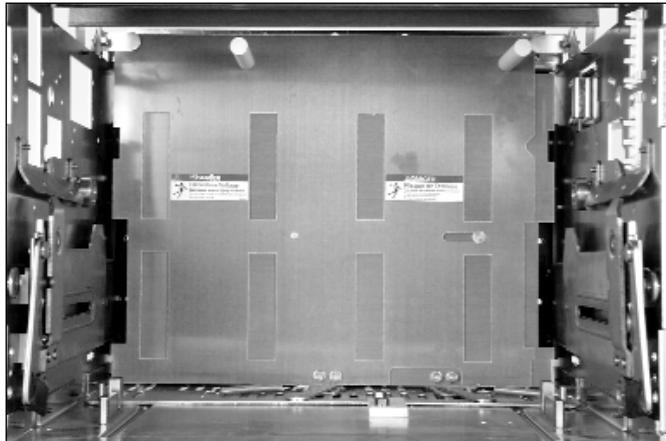
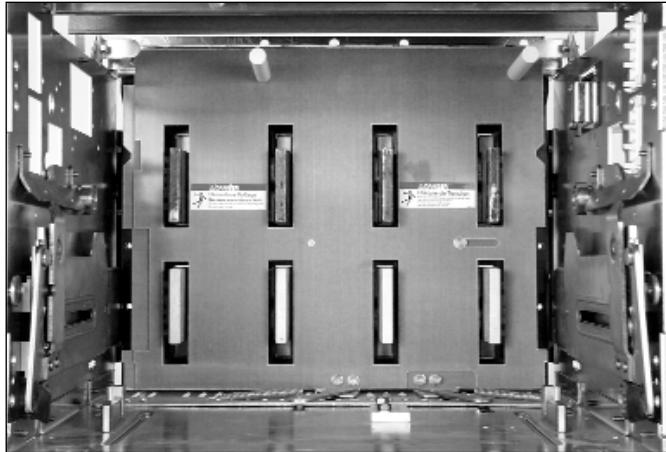

Figure 3-60 Typical Safety Shutters in Closed Position
Figure 3-61 Typical Safety Shutters in Open Position
**Cassette Safety Shutters** - Automatically operated insulating type safety shutters are available for use with the drawout cassette. When the drawout circuit breaker is levered from the CONNECT position, the shutters automatically close to cover the fixed primary contacts (Figure 3-60). When the circuit breaker is levered into the cassette, the shutters automatically open permitting primary connections to be made (Figure 3-61).